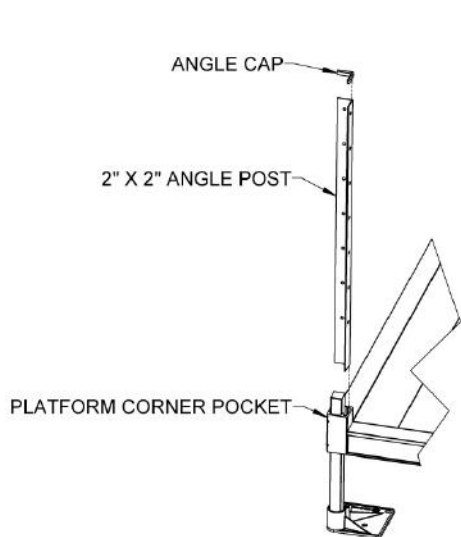

FIG. 5.1
- 5.2. If installing on a platform in the "turn" configuration, install the 2" x 2" angle post not attached to a platform handrail in the open platform corner pocket. Align the bottom of the post with the bottom of the corner pocket and tighten the set screws securely (FIG. 5.1). Refer to Section 4.5 for addition details on securing the post.